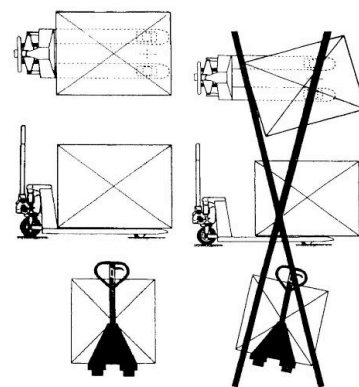

Fig. 6
5.2 The cargo loading type is shown as fig 6.